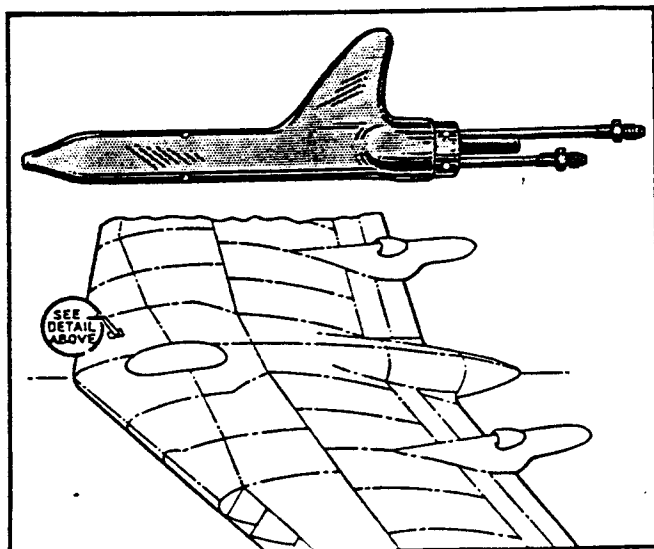

Figure 11. Upper Pitot Tube Installation
e. **PITOT TUBES AN5816-2 and AN5814-2** (See figures 11 and 12).- These pitot tubes installed on the upper and lower wing surfaces, operate the pilots' air speed indicators, altimeters, and rate of climb indicators, and the navigator's altimeter and air speed indicator. They are electrically heated.